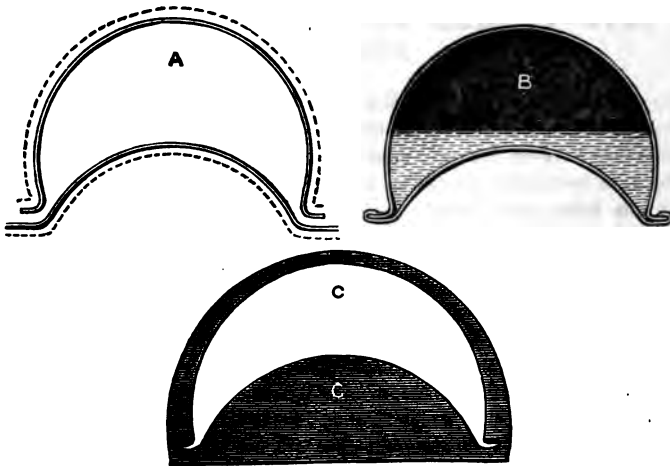

FIG. 102.—TIN BOILER FOR ENGINE.
It may be as well, perhaps, to sketch a few boilers suitable for small locomotives before going further, if only to show how much scope there is for ingenious adaptation of a few simple expedients to the desired end, which is to give as much heating surface as possible, so as to make the most of the sources of heat at our disposal. Fig. 102 (A) shows a cross section of a boiler of strong tin plate. The upper part is merely a straight strip
It will be as shown by C in Fig. 102, where the shoulder part is, the semicircular end coming, of course, a little below the crescent-shaped tube. Then in the end nearest the lamp (*i.e.*, the hinder one) cut out a place to allow the tube of the wickholder to pass it if found necessary; but the wicks should not touch the boiler, or the flames will lose power. The semi-circular ends will have a better appearance than if crescent-shaped, otherwise it is not of much importance which form is adopted. But there is one way by which you can get a folded joint as well. Cut out a crescent to overlap a little the turned-out ends of the tube, and bend it up all round so that the tube fit nicely just inside it. Then, when well fitted, tin as before, solder, and hammer down all round. You will do this more easily if, with a pair of flat nosed pliers, you first bend over the tin little by little. This done, cut out a pair of semi-circular plates, and with just a touch of solder here and there solder them on outside these crescent-shaped ones. Neatly done, they will be almost like a single plate, but you will have gained the advantage of a good folded seam to the boiler.